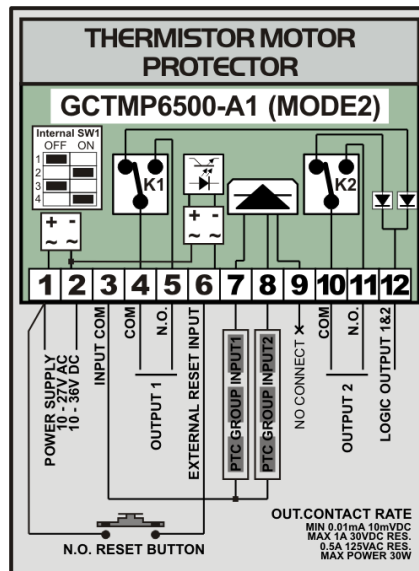

fig. 3
3. 2 Motors protection, through a connection with a PTC Thermistor each, or a triple PTC Thermistor group each. (Mode 2 - fig. 3).
(Modes 2,3 - *fig. 3,4*)